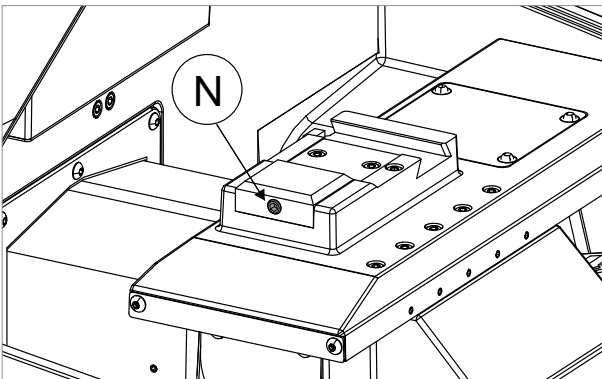

Fig. 77
- 2) Loosen the grub screw (N) (Fig. 77).